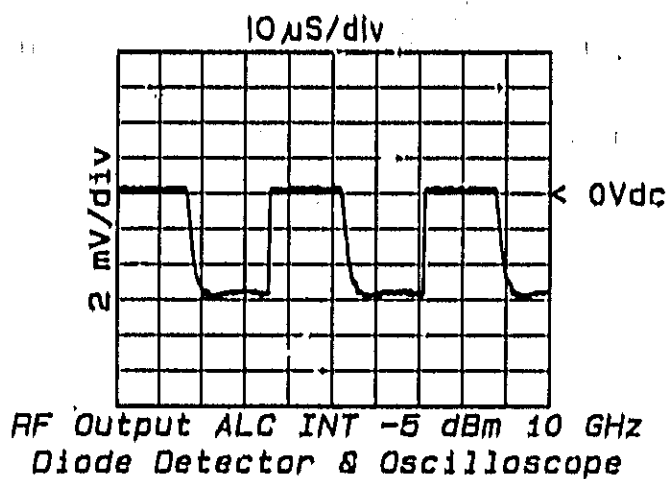

Figure 5-34b. Optimum Squarewave (CHANGE 14)
3. Press [CW] [3] [GHz s]. Alternately adjust C23 (SYM 1) and R99 (SYM 2) for the waveform shown in Figure 5-34b.
4. Press [CW] [10] [GHz s]. Check that the squarewave resembles that shown in Figure 5-34b. If not, adjust C23 and R99 for best squarewave while alternately checking the squarewave at 3 GHz.